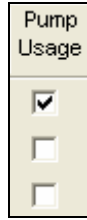

Figure 16.3.16A
- If a pump is in use check the box next to each program that it applies to (Figure 16.3.16A).